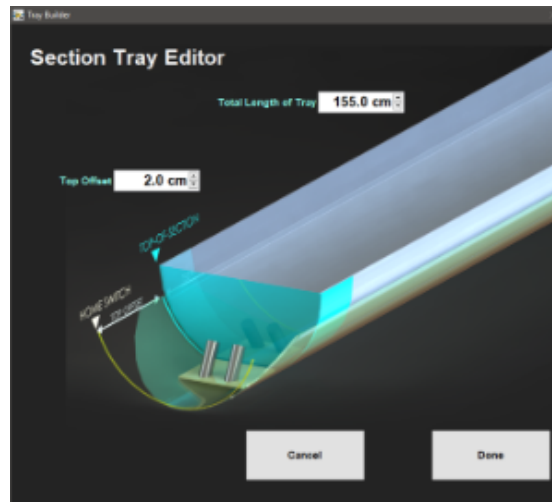

Figure 6- Section Tray Editor Window
- For section trays, define the distance from the home switch (edge of tray that strikes the home switch) to the location of the top of core (top offset). Set the total tray length (**Figure 6**).